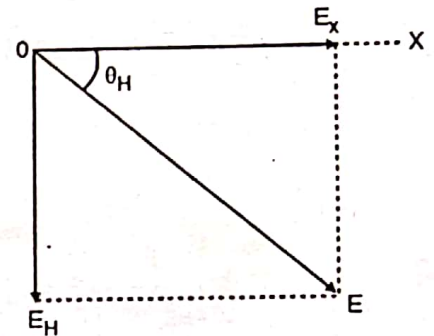

Fig. 2.26.1
- The net electric field E in the specimen is a vector sum of electric field component in the x-direction because of flow of current, E_x and electric field due to Hall effect i.e. E_H as shown in Fig. 2.26.1.